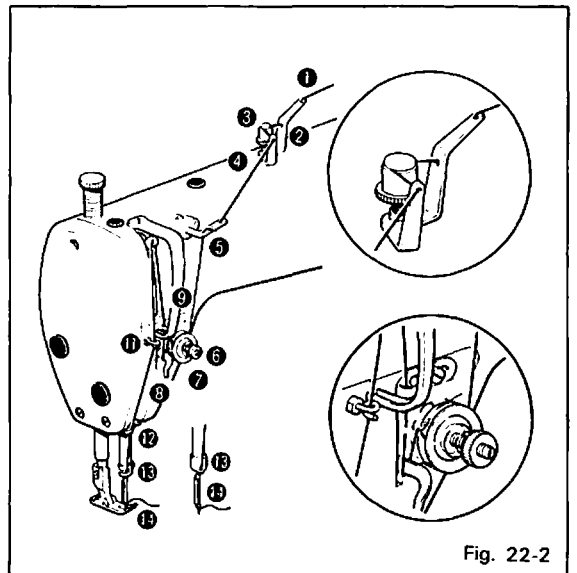

Fig. 22-2
I) On the synthetic threads, if you will loosen the tension, you may encounter the thread breakage at the beginning. (Fig. 22-2)